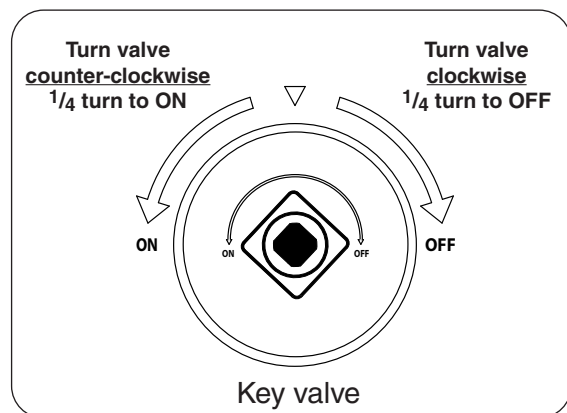

Fig. 47-2
4. **Once the match is burning and in position**, turn the key valve counter-clockwise a $\frac{1}{4}$ turn to the **ON** position (see Fig. 47-2). Your burner should light.
To extinguish your gas burner, turn the key valve clockwise a $\frac{1}{4}$ turn to the **OFF** position (see Fig. 47-2). Be sure the key valve is turned fully off to avoid any gas leakage.